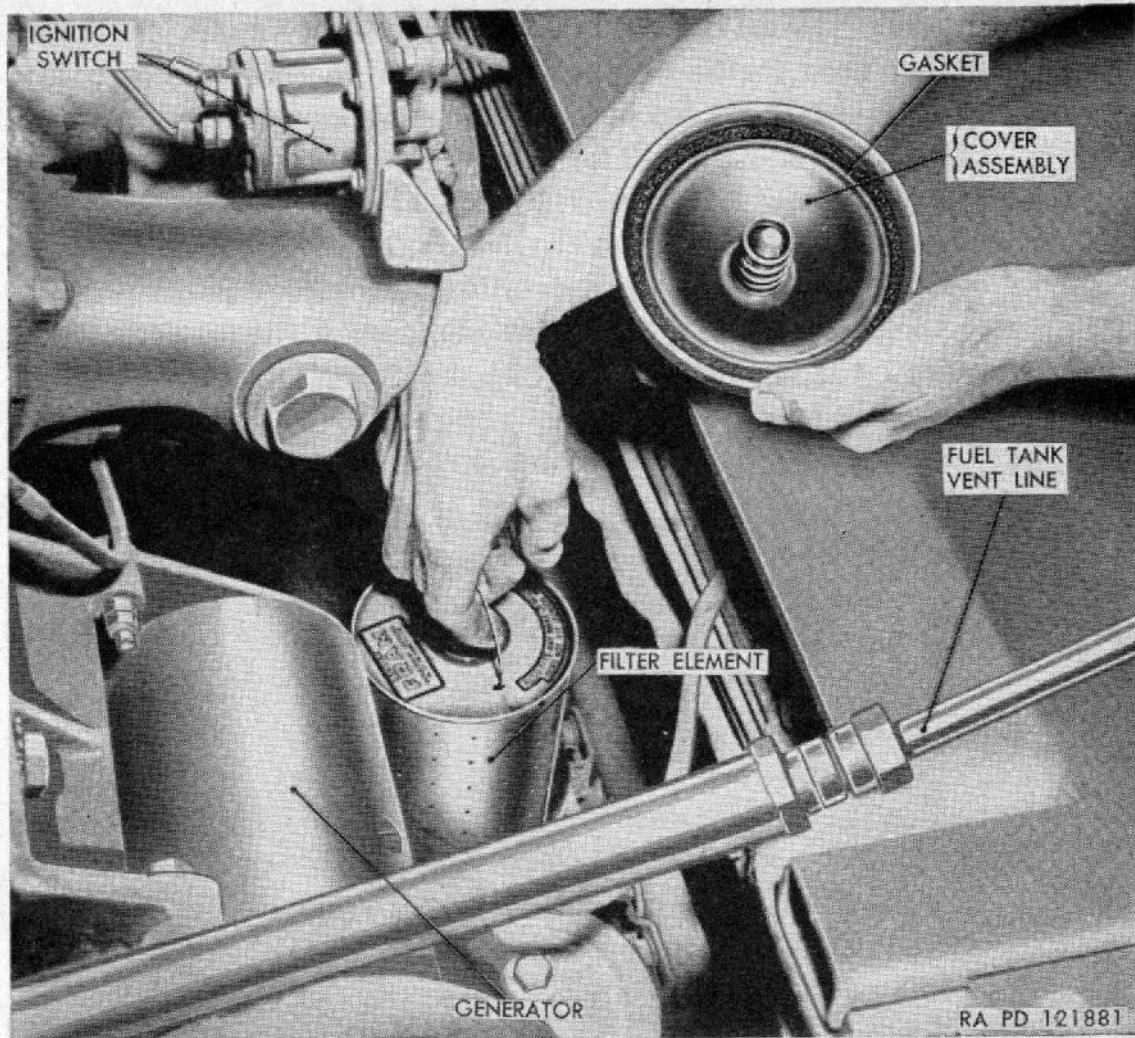

Figure 33. Removing engine oil filter element.
- (2) *Removal of oil filter element* (fig. 33). Remove cover screw from oil filter cover and remove the cover and gasket. Remove the oil filter element from case.
- (3) *Installation of oil filter element*. When installing new oil filter element in filter case, thoroughly remove any wax coating with a clean cloth and dry-cleaning solvent or volatile mineral spirits. Unless the wax coating is completely removed, it will be dissolved by the passage of oil through the element and be carried into oil lines where it will cause clogging. Insert new filter elements after each case has been drained and thoroughly cleaned. Install a new gasket on the cover (fig. 33) and new filter gaskets at the bottom and top of the oil filter mounting bolt. Install oil filter cover and screw. Tighten screw securely and start engine (par.